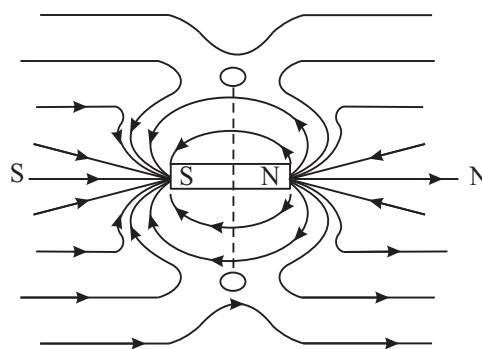

Fig. 28.7
- (iv) Draw such lines for different starting points and you will get large number of lines of force around the magnet. Their shape will be as shown in Fig. 28.7.
These lines will not cut each other. You will get two regions on the equatorial line shown by small circles in Fig. 28.7, where there will be no line of force. These are the neutral points. There are two neutral points, one on each side of the magnet.